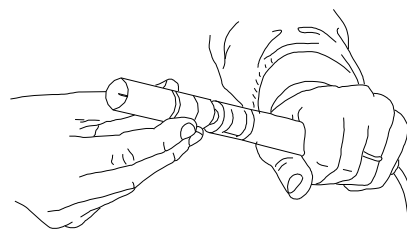

Figure 1c. Bleed the transfer fluid by gently tightening the transfer nipple. Make sure that the O-ring seals inside the sensor cavity.
- Screw the transfer nipple into the sensor until the O-ring seals inside the adapter (figure 1c). Make sure that a few drops of water bleed through the needle. Between individual measurements, the bleeding through the needle shall be repeated by gradually screwing the transfer nipple into the plexiglass adapter.